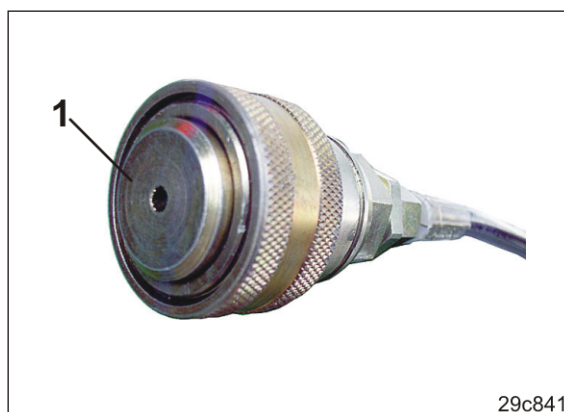

Fig. 144
3. Drain the hydro reservoir (Fig. 141/1) before uncoupling the hydraulic socket (Fig. 144).
The hydraulic socket (Fig. 144) cannot be coupled to the tractor again unless the hydro reservoir is empty.
6. Protect the hydraulic socket and the hydraulic connector against soiling using protective caps (Fig. 144/1).